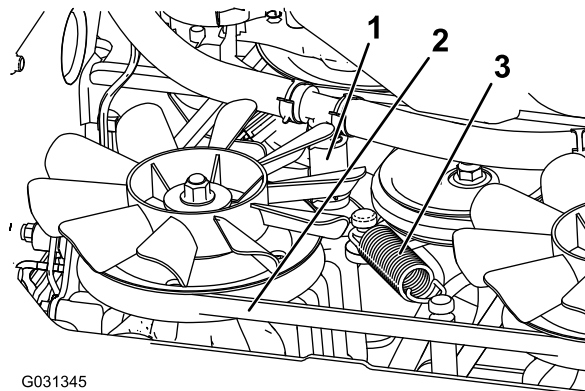

Figure 67
5. Remove the lower hydraulic hose (Figure 67).
6. Remove the tension spring (Figure 67).
7. Remove the deck belt from the clutch and clutch stop (Figure 67).